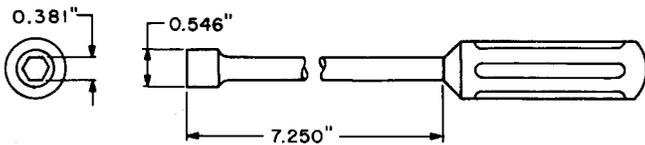

Fig. 3—102 3/8-Inch Hex, Single-End Socket Wrench
2.03 **102:** The 102 tool (Fig. 3) is for general use.